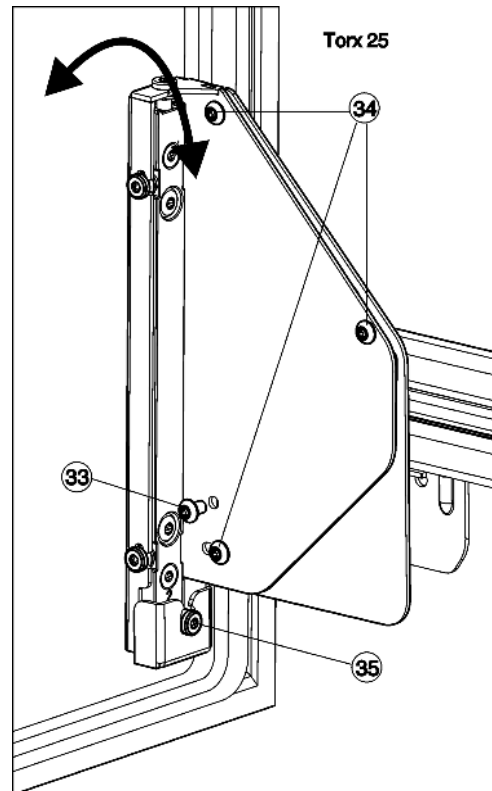

Fig. 30
- ▶ Fully unscrew the screws Fig. 30 (34).
- ▷ Dispose of the screws Fig. 30 (34) as they will no longer be needed.
- ▶ Only loosen the screws Fig. 30 (34) with 1 to 2 turns.
- ▶ Turn the adjusting screw Fig. 30 (35). In a clockwise direction: the top of the door tilts away from the appliance body. In an anticlockwise direction: the top of the door tilts towards the appliance and the bottom tilts away from the appliance body.
- ▶ After adjusting the inclination, retighten all screws Fig. 30 (34).